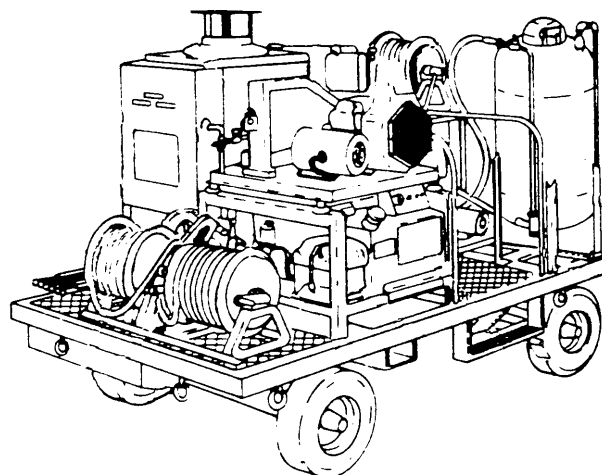

Figure 9-23. Portable Power Supply
p. Portable Power Supply. The portable power supply, shown in figure 9-23, is commonly called an inverter. The unit produces ac power output from dc power input and is approximately 12 inches long, 8 1/2 inches wide, and 4 1/4 inches high. It functions in a temperature range of -65 to +160°F (-54 to +7°C).
(1) Purpose. The inverter is designed to convert 28 vdc to 115 vac, 400 Hz, sine wave power at 39 amps.